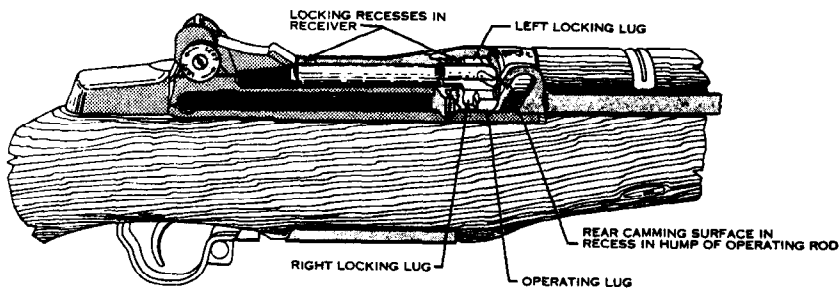

Figure 26. Locking.
- (3) *Locking.* Locking is complete when the bolt is fully closed. This prevents the loss of gas pressure until the bullet has left the muzzle. The bolt is locked by the rear camming surface in the recess in the hump of the operating rod, forcing the operating lug of the bolt down. This engages the locking lugs on the bolt with their recesses in the receiver (fig. 26).